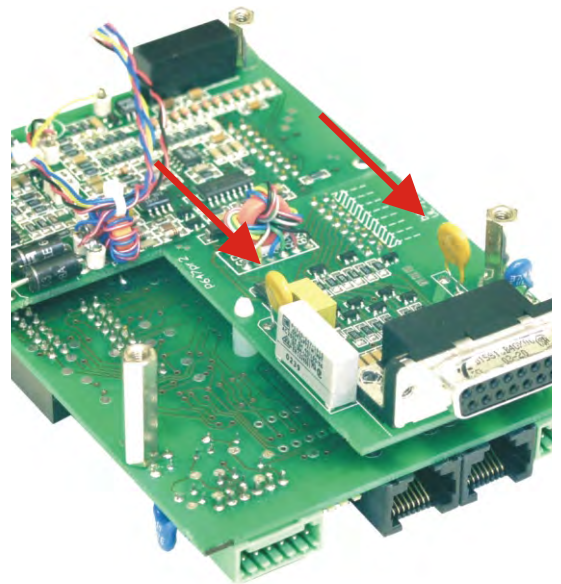

fig. 5 - 1
- Check fuse F27_2 in series with Ø (pin 8 of CON E) (see fig. 5 - 1). To check the fuse measure the voltage between Ø and the minus output, a high voltage means too much current flowing through the fuse. F27_2 = 650 mA, self resetting.